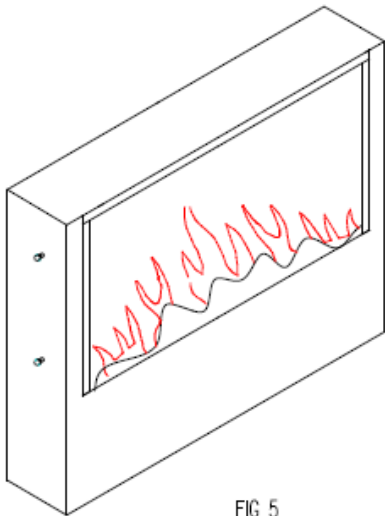

FIG 5
1. On each side of the fireplace are two locating studs (**Figure 5**).